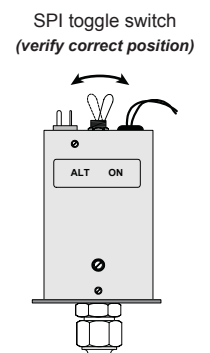

Fig. 2, Service Power Inserter (SPI)
1. Verify Service Power Inserter (SPI) toggle switch is set to the ALT position (Fig. 2).
2. Verify the battery switch is set to the OFF position on XM2-300HP (0).
4. Set the Inverter Module's battery switch to the ON position (1).
8. Set the Service Power Inserter (SPI) toggle switch to the ON position (Fig. 2).